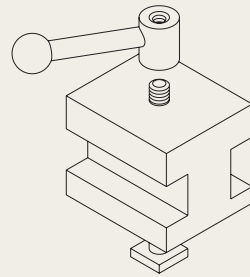
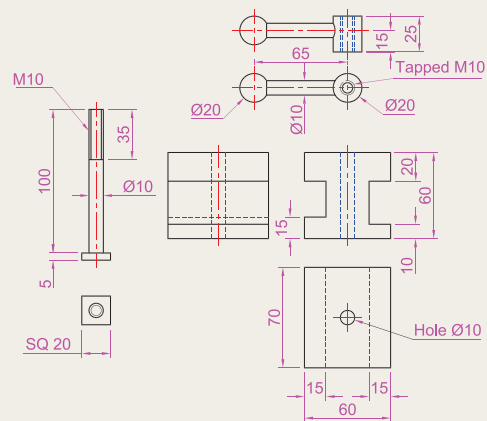

Fig. 7.26 Exercises 4 and 5 – orthographic projections of the three parts of the tool holder
Fig. 7.27 Exercises 4 and 5 – orthographic drawing of the tool holder on which the two exercises are based
- Construct a three-view orthographic projection in an angle of your own choice of the tool holder assembled as shown in the isometric drawing in Fig. 7.26. Details are given in Fig. 7.27.
5. Construct an isometric drawing of the body of the tool holder shown in Figures 7.26 and 7.27.